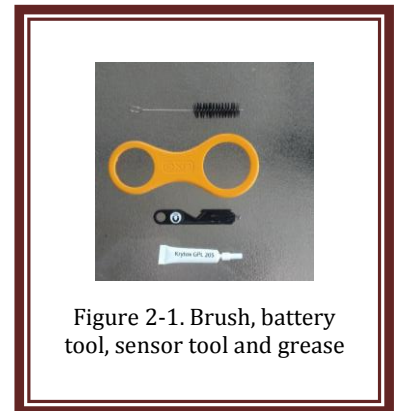

Figure 2-1. Brush, battery tool, sensor tool and grease
- Tools (brush, battery wrench, and sensor-removal tool, Figure 2-1)